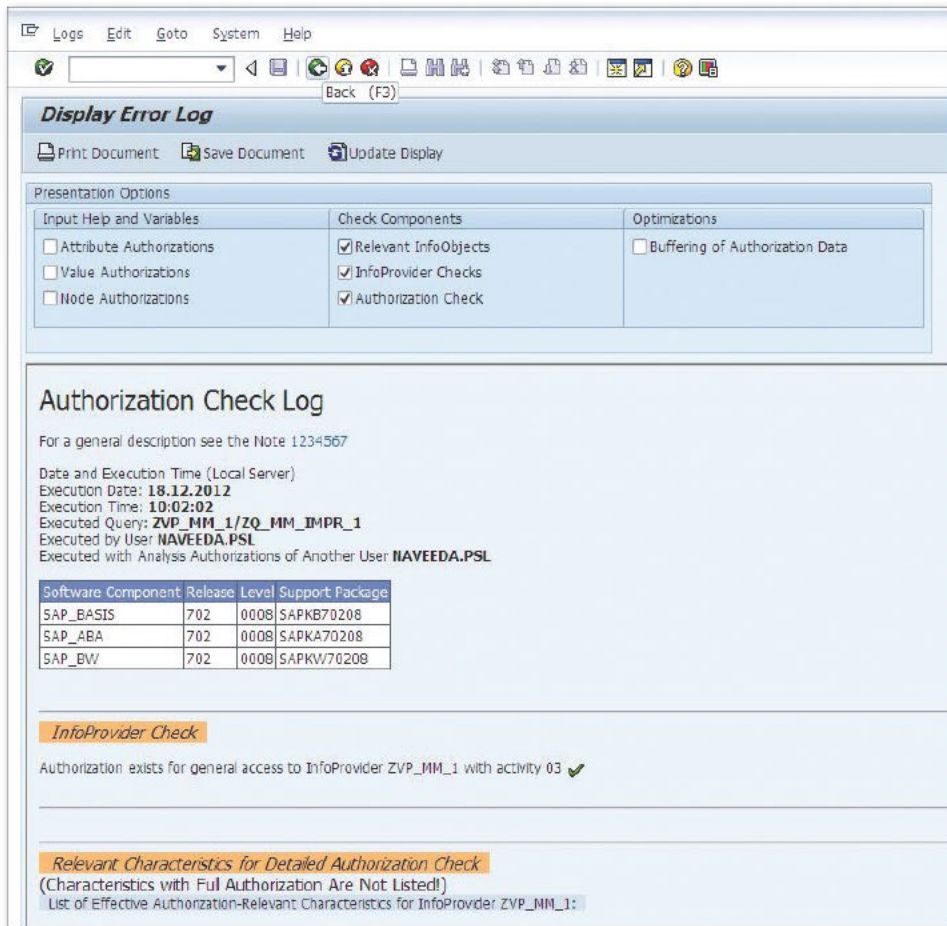

Figure 3 Error Log Based on the Trace of the Authorization Checks
3. Now you can view the detail analysis check log as shown in Figure 3. Any missing authorizations are noted in red; otherwise, they'll be displayed in green.